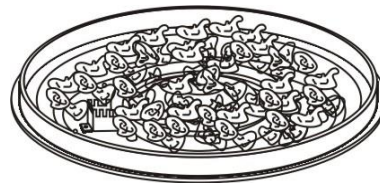

Figure 4
2. Pour all of the lava rock into the burner pan. Completely cover the burner tube with lava rocks as shown in Fig. 4